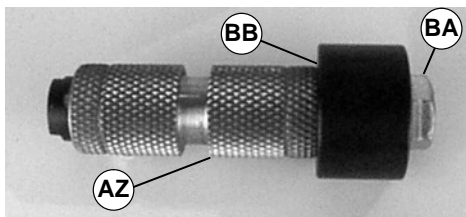

Figure 39
- Assemble pulley (AZ of Figure 39), removal tool (part # 25-09☆) (BB), and bolt (part # 906-278☆) (BA), as shown
- Tighten bolt (BA) to remove bearing sleeve (AY)